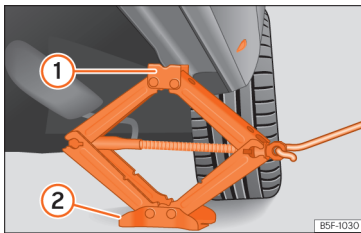

Fig. 229 Crossbar: mounting the jack on the vehicle.
- Turn the jack crank handle, located below the strut support point, to raise it until the tab **1** >>> **Fig. 229** is below the housing that is provided.